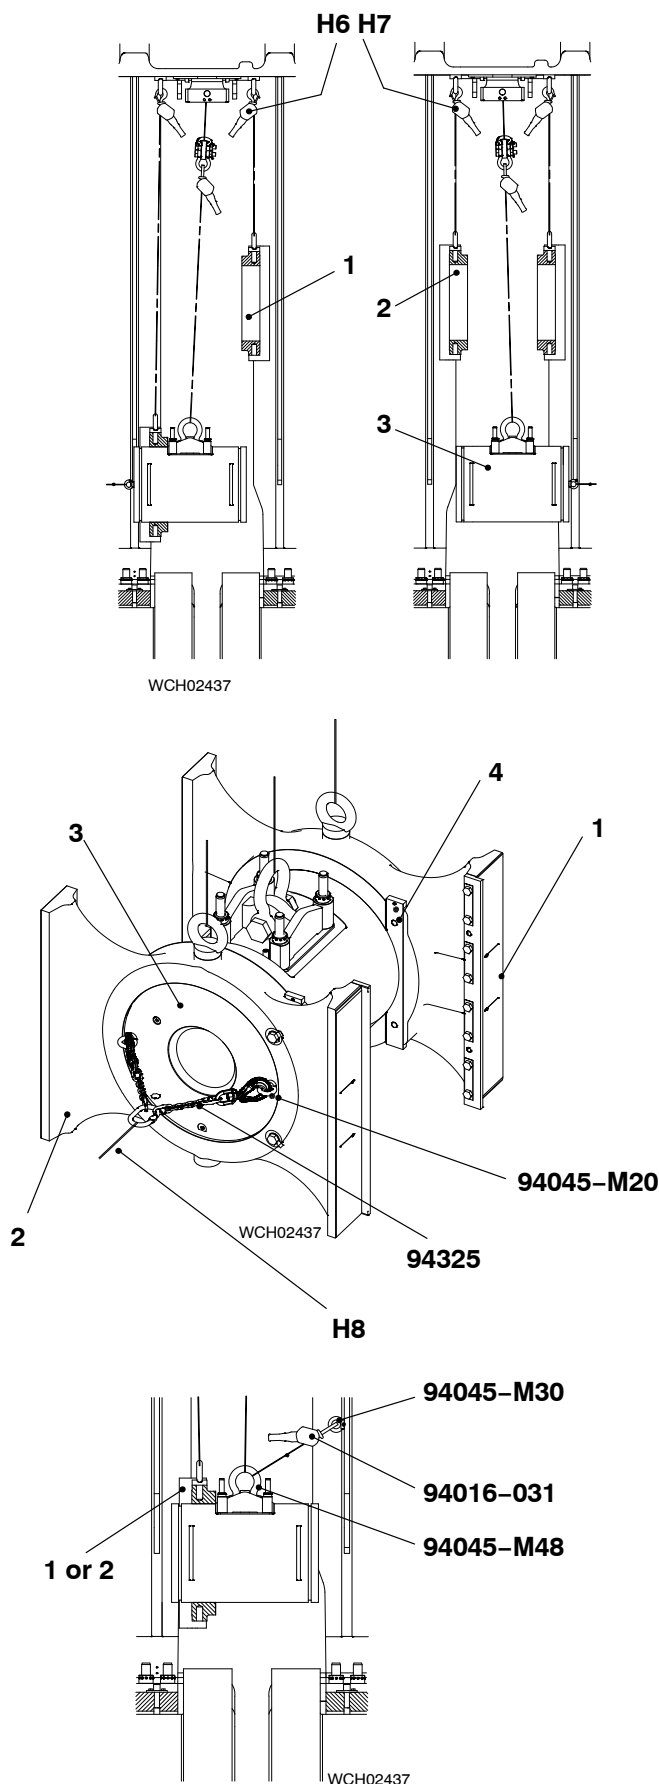

Fig. 8
- 7) Turn the crosshead pin (3, Fig. 8) 90°.
- 8) Operate the manual ratchet (H7) to lower and align the guide shoe (2) with the crosshead pin (3).
- 9) Attach the two eye bolts (94045-M20) and the chain (94325) to the crosshead pin (3).
- 12) Operate the manual ratchet (H8) to pull the crosshead pin (3) into the guide shoe (2).
- 14) Attach the eye bolts and chain (94325), to the other side of the crosshead pin (3).
- 16) Operate the manual ratchet (H6) to lower and align the guide shoe (1) with the crosshead pin (3).
- 21) Attach the eye bolt (94045-M30, Fig. 8) to the hole in the column.